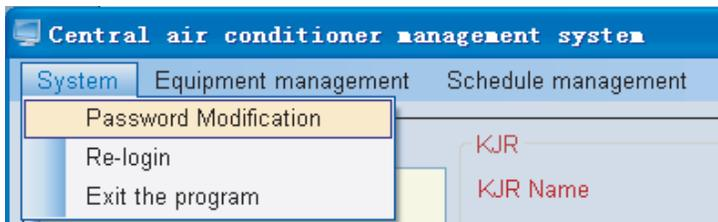

Fig. 4-15
1) “System” includes: “Password Modification”、“Re-login”、“Exit the program”。See Fig. 4-15.